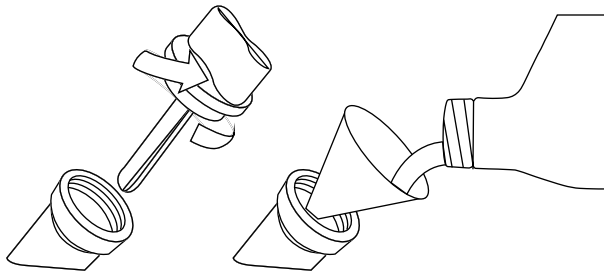

Figure 3: Oil Funnel
3. Using the supplied funnel and oil, slowly pour oil into the engine. Stop frequently to make sure you do not overfill (see Figure 3).